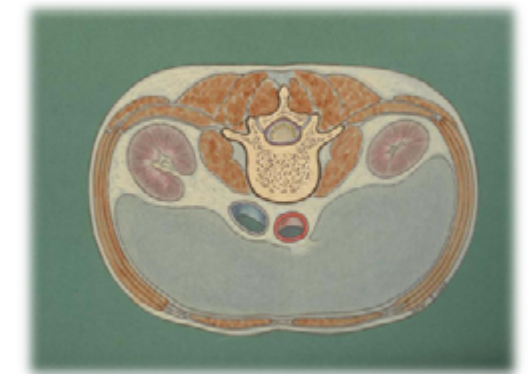

FIG 2a
- The location of the incision was determined by prepuncture. The location of the puncture point was the vertebral arch 1 -- 1.5CM outside of the root surface site, an obese patient's approach needs to be more lateral (FIG. 2a).